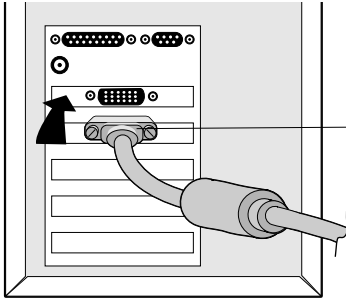

Figure A.1
2. For the PC: Connect the 15-pin mini D-SUB of the appropriate signal cable to the connector of the display card in your system (Figure A.1). Tighten all screws.